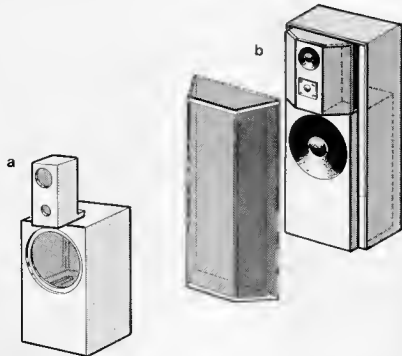

Figure 7 Artist's impression of the enclosure.
The enclosure is divided into two compartments: one for the bass speaker, and the other for the middle and high frequency speakers, as shown in figure 7. As stated before, the PL301 is typified by its robustness, the individual placing of the drive units, and the shape of the enclosure.
1.5 mm² flex may be used for the (fairly short) connections between the boards and the inputs sockets and between the boards and the drive units. We have already touched briefly on the enclosure proper, and figure 7 illustrates how it consists, as it were, of an inner and outer cabinet. Figure 7a shows the basis, comprising the bass chamber with the compartment for the middle and high frequency units mounted on top. The bottom of the smaller compartment has been extended to the back and provided with sunken holes to enable the box to be fastened to the bass chamber with a couple of heavy bolts and wingnuts. Fig-